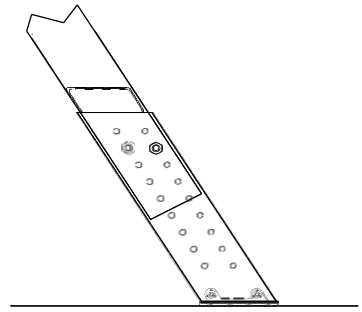

FIGURE 13
E. Slide aluminum foot over ladder rail as shown in Figure 13. Position so the rubber foot is in contact with the floor. Align with closest set of predrilled holes in rail. Attach using (2) 1/4" bolts and serrated nuts per side (included).